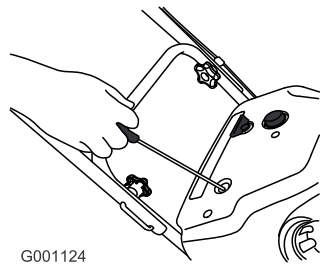

Figure 14
4. Pull the recoil starter (Figure 14).